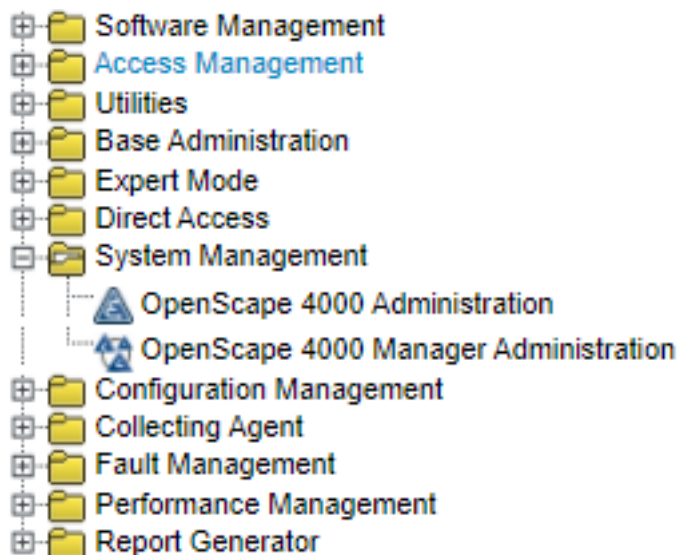

Figure 53: Creating an OpenScape/HiPath 4000 in System Management
- 10) Click the Customer Data subtab (see Figure 53).